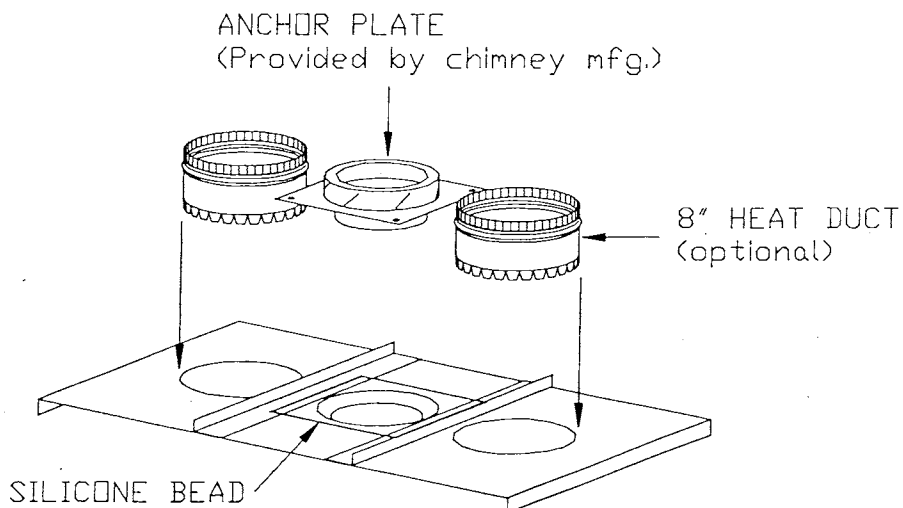

FIGURE 4
IMPORTANT: Purchase the appropriate anchor plate with your chimney system. Sealant and screws for attaching the anchor plate to the fireplace are included. See Figure 4.
1. Place a bead of sealant under the chimney anchor plate and push the plate collar into the fireplace flue. See Figure 4. Secure with metal screws. Connect the first chimney section per the manufacturer's installation instructions.